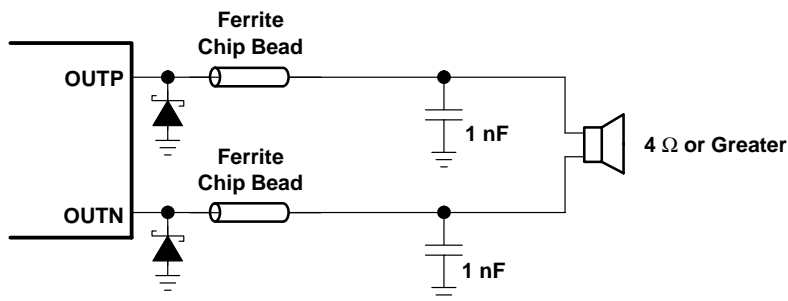
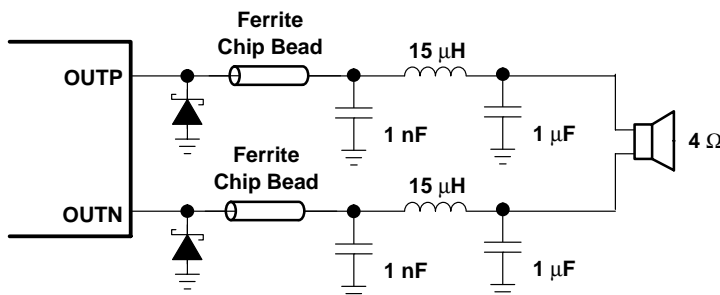
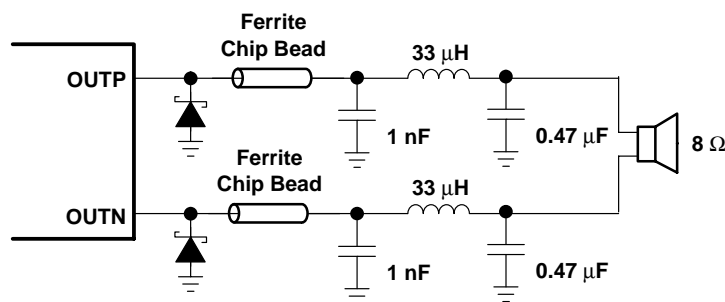

Figure 34. Typical Ferrite Chip Bead Filter (Chip bead example: Fair-Rite 2512067007Y3)
Figure 35. Typical LC Output Filter for 4-Ω Speaker, Cutoff Frequency of 41 kHz
Figure 36. Typical LC Output Filter for 8- $\Omega$  Speaker, Cutoff Frequency of 41 kHz
A ferrite bead filter (shown in Figure 34) should be used in order to pass FCC and/or CE radiated emissions specifications and if a frequency sensitive circuit operating higher than 1 MHz is nearby. The ferrite filter reduces EMI around 1 MHz and higher (FCC and CE only test radiated emissions greater than 30 MHz). When selecting a ferrite bead, choose one with high impedance at high frequencies, but very low impedance at low frequencies.
Use an additional LC output filter if there are low frequency (<1 MHz) EMI sensitive circuits and/or there are long wires (greater than 11 inches) from the amplifier to the speaker, as shown in Figure 35 and Figure 36.
- Output filter — The ferrite filter (Figure 34, page 18) should be placed as close to the output terminals (pins 10, 11, 14, and 15) as possible for the best EMI performance. The LC filter (Figure 35, page 18 and Figure 36, page 19) should be placed close to the ferrite filter. The capacitors used in both the ferrite and LC filters should be grounded to power ground.